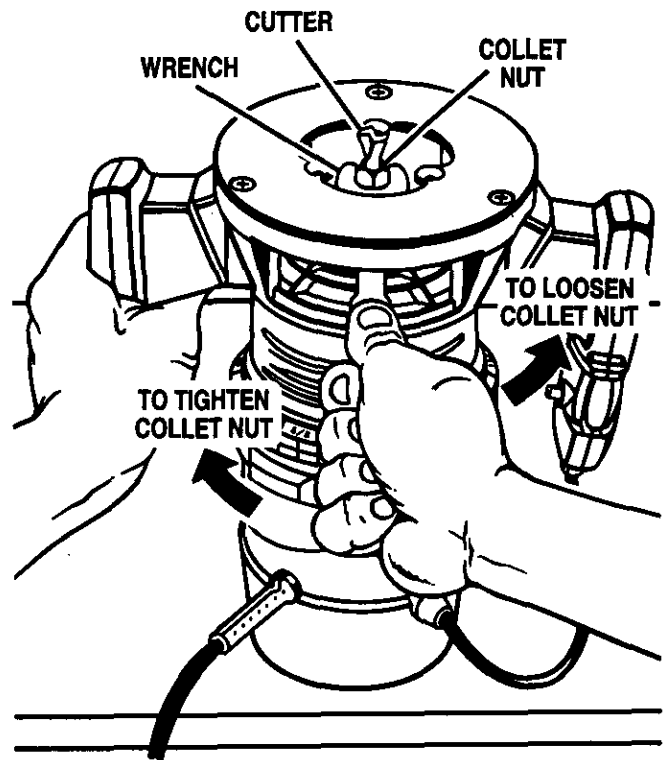

Fig. 3
- Place your router upside down on table, then turn collet nut with wrench until lock mechanism interlocks. See Figure 3.
- Remove cutters by turning collet nut counter-clockwise enough to allow cutter to slip easily from collet. See Figure 3. The collet is machined to precision tolerances to fit cutters with 1/4 in. diameter shanks.
- Tighten the collet nut securely by turning clockwise with the wrench provided. See Figure 3. Push spindle lock in and slide into unlock position. Otherwise, the interlocking mechanism of the spindle lock will not let you turn your router on.